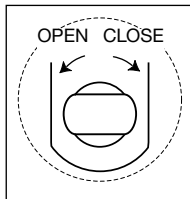

Fig. 3 - Release Valve
- Using rectangular end of pump handle, turn relief valve stem counter-clockwise to open valve (do not turn more than two revolutions). See Fig. 3.